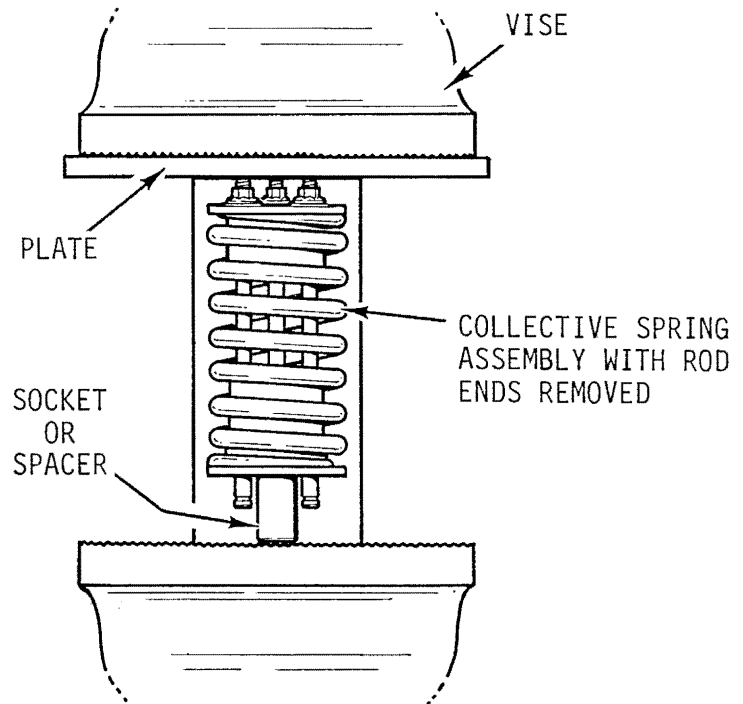

FIGURE 8-8
8.220 Collective Spring Assembly (manual controls only, see Figure 8-8)
When collective spring is compressed and retaining rings are installed, extreme care must be taken not to remove retaining rings unless suitable safety device is used to slowly relieve tension (see Figure 8-8).
6. Install spring assembly in vise per Figure 8-8. Remove retaining rings and decompress spring.